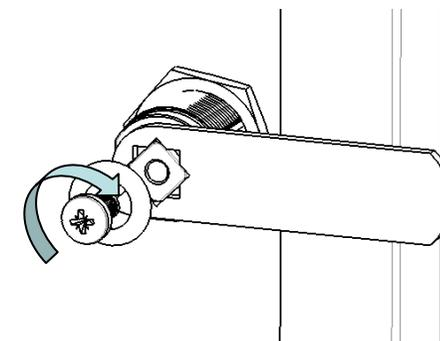

Figure 3.
4. Position the cam onto the rear of the lock as required, secure with the cam washer and cam mounting screw as shown in Figure 3.